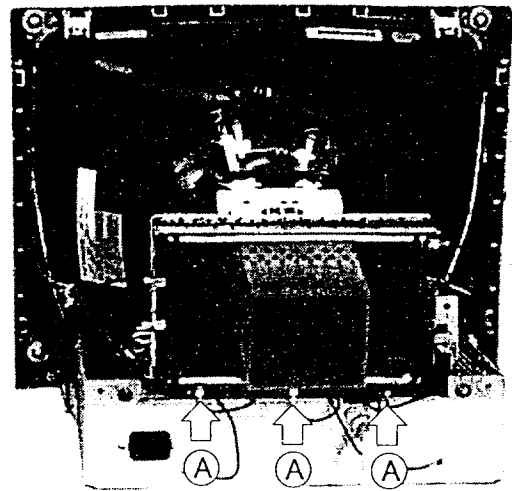

Figure 2-6 Remove Neck Board & Main Board
1. Disconnect the three ground wires from the Neck Shield. Refer to the figure 2-6 (A).